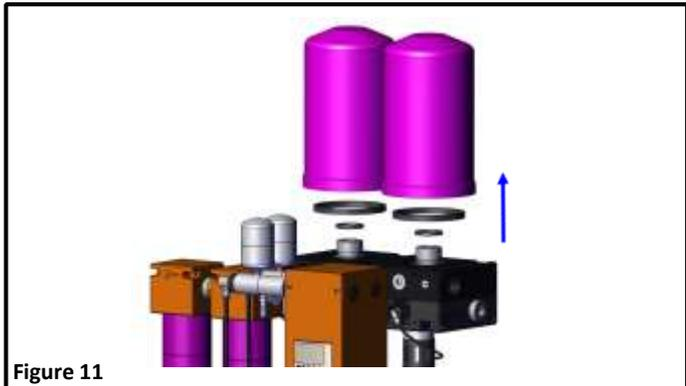

Figure 11
2. Using a strap wrench (if necessary), unscrew each canister from the top of the dryer housing. *Figure 11*